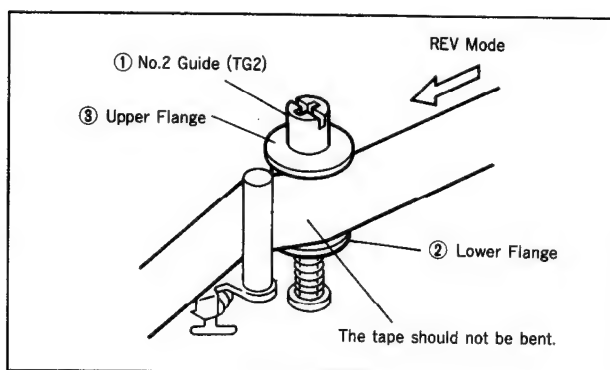

Fig. 40
5-3-2. No. 2 GUIDE (TG2) ADJUSTMENT (Fig. 40, 41)
- 2) Confirm that the tape is not bent at the lower flange ② of the No.2 guide (TG2) ① (Fig. 40). If it is, turn the upper flange ③ of the No.2 guide (TG2) clockwise with a screwdriver, lowering it until the tape is straightened.